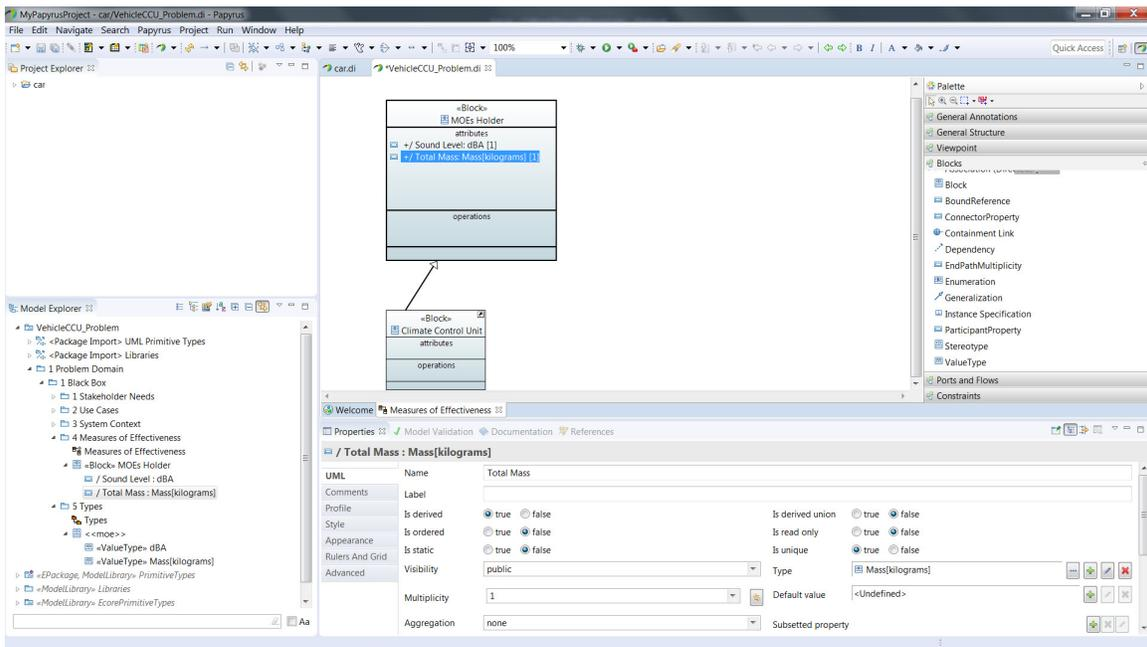

Figure 86: *Total Mass* Attribute Created.
- Follow that same procedure to create another attribute in the *MOEs Holder* block named *Total Mass*. For its **Type** property select the *Mass* value type that we created earlier in the *5 Types* package. Your diagram should look like (figure 86). We have now finished our Black Box analysis and will proceed to our White Box analysis.